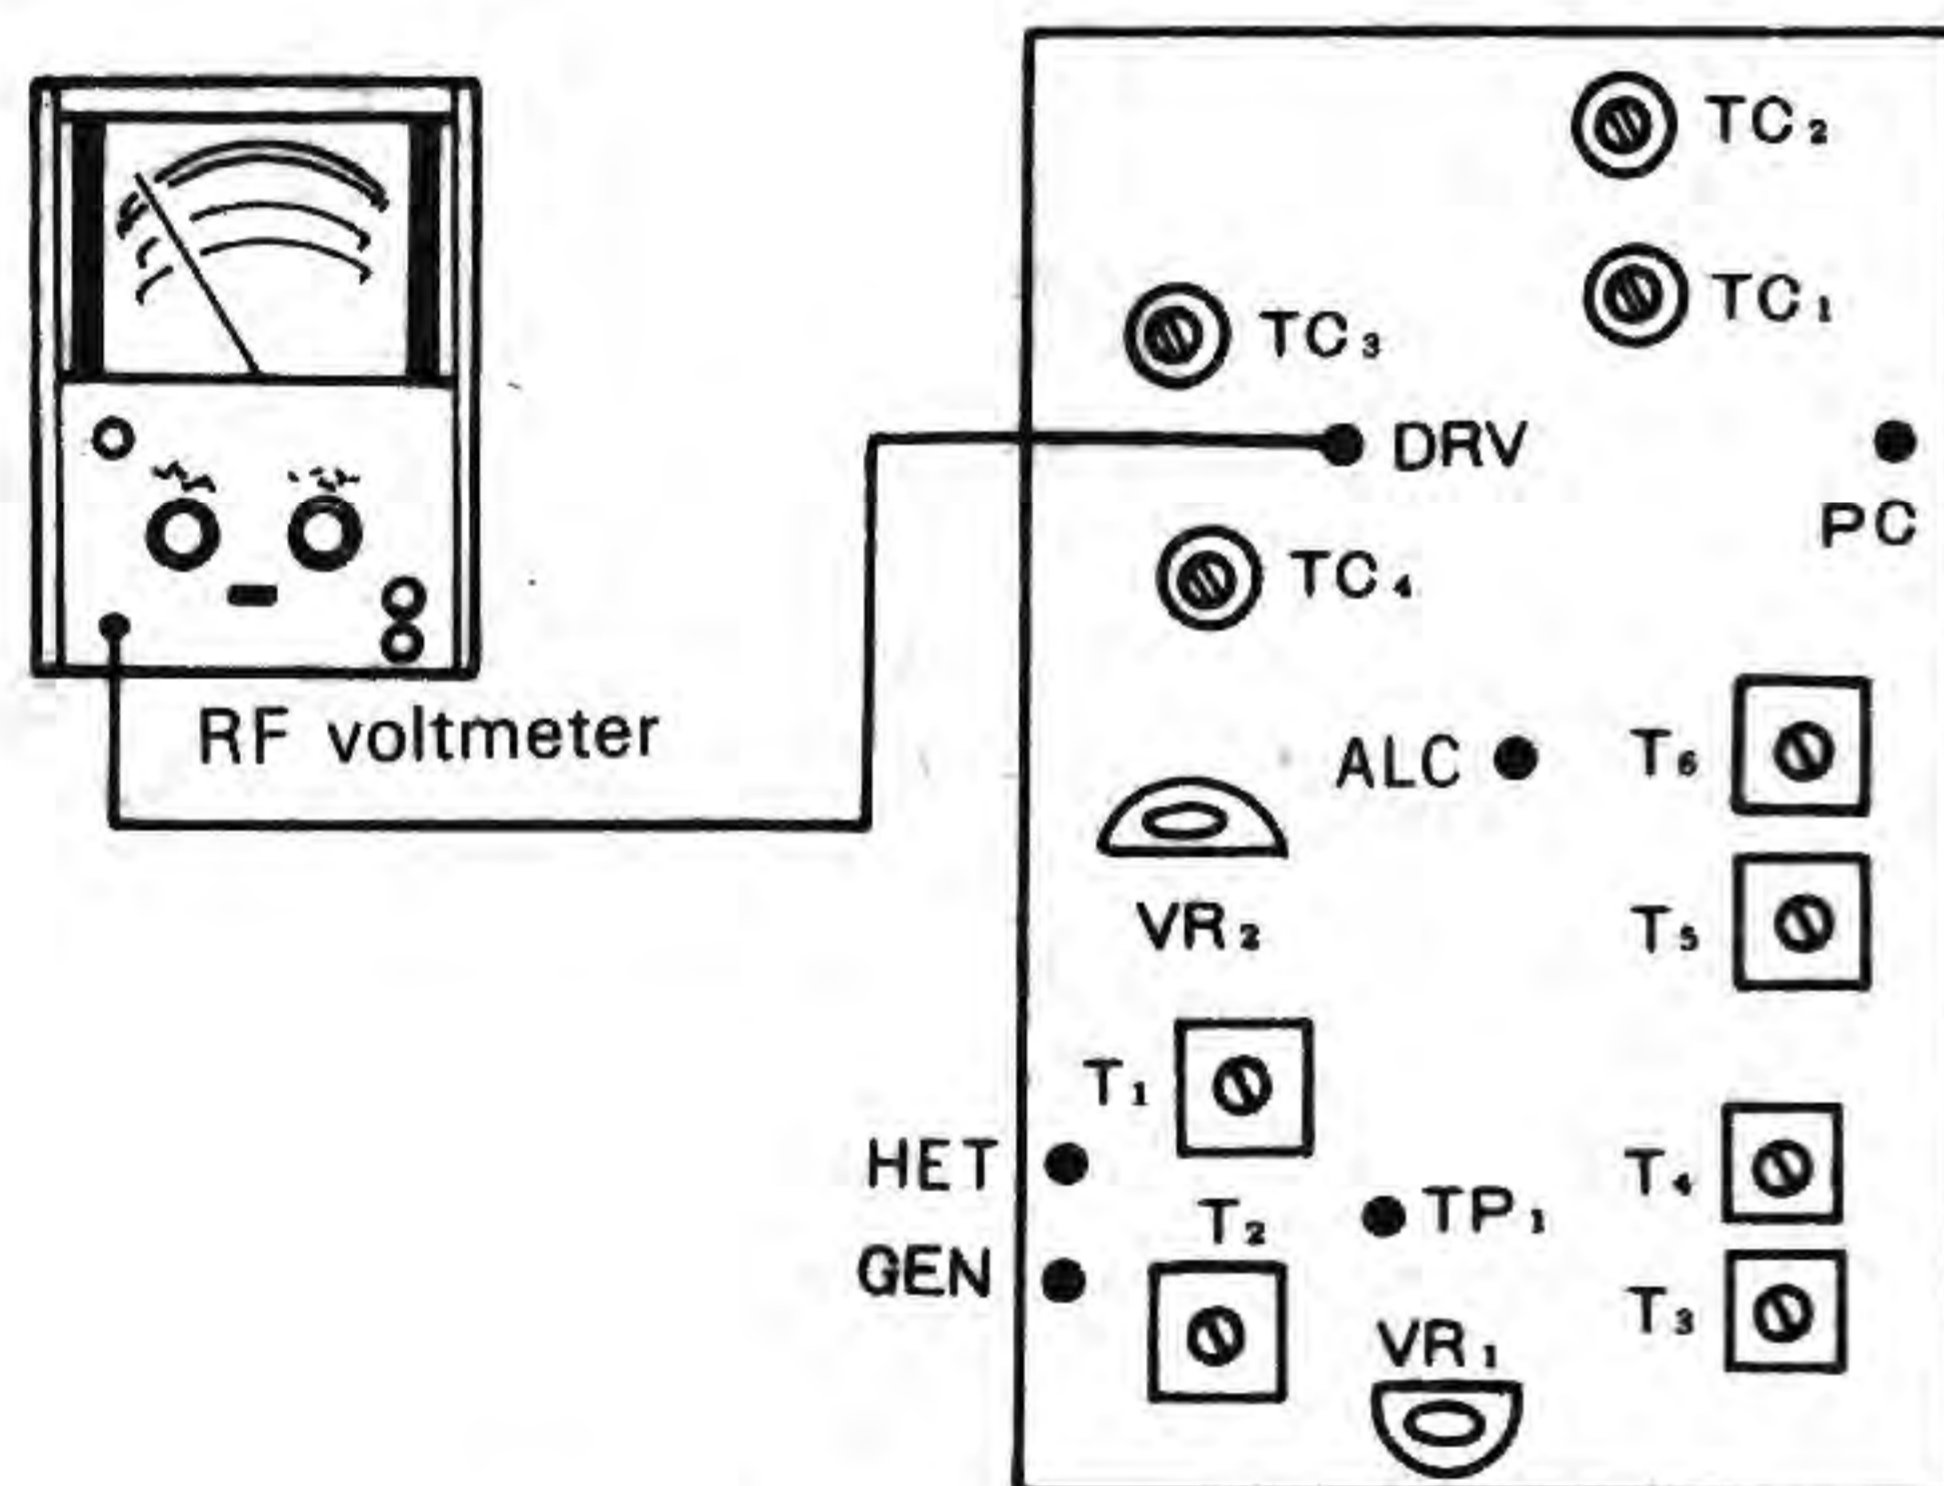
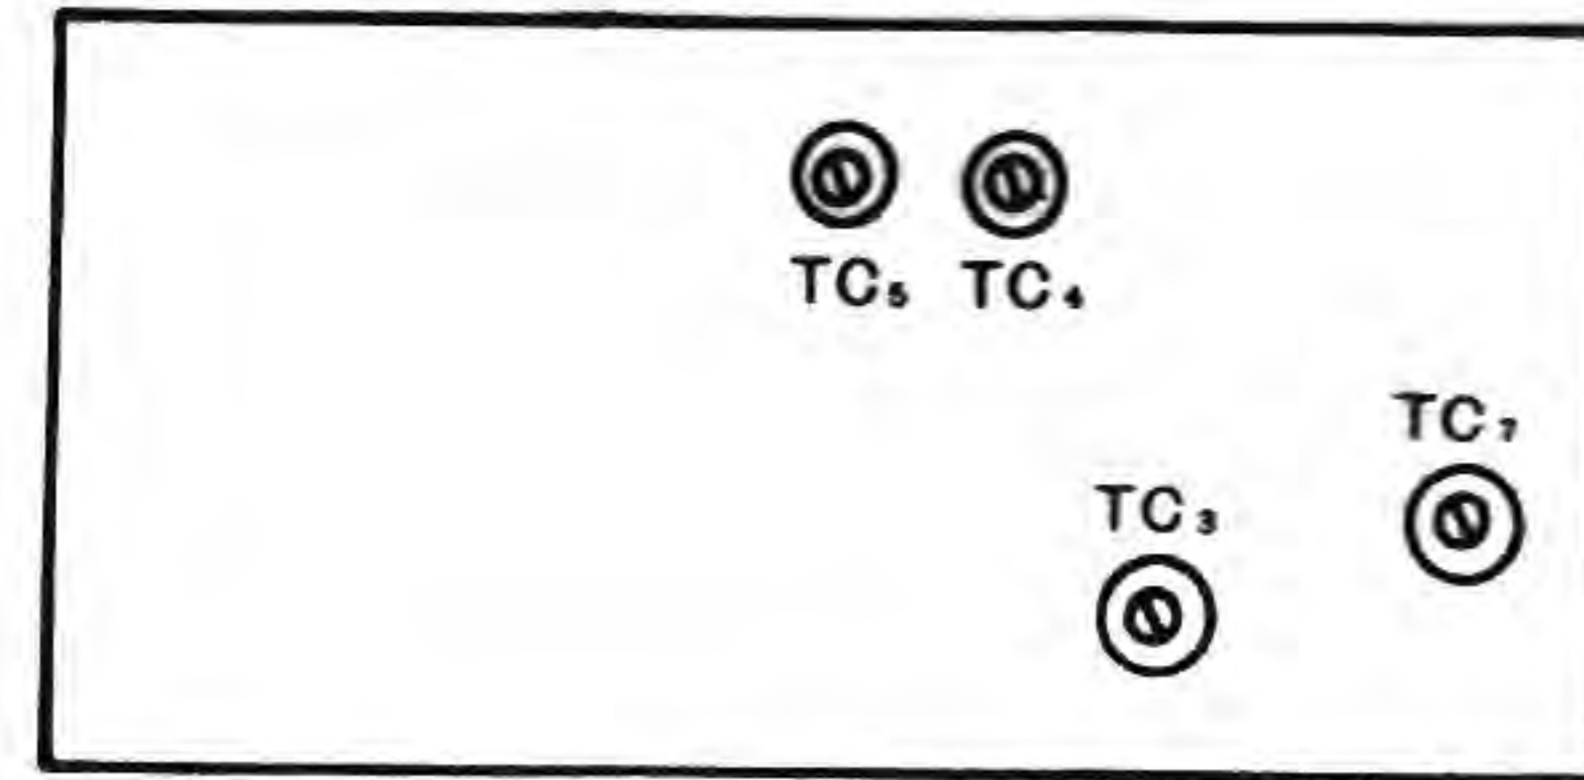

Fig. 23 MIX unit
Fig. 24 Final unit
Have the RF voltmeter connected as shown in Fig. 23.
- 3) Adjust TC1, TC2, TC3, TC4, TC5 and TC7, shown in Fig. 24, and also TC3 and TC4, shown in Fig. 23, to obtain the largest possible output. (Repeat the foregoing sequence several times, each time adjusting the FINAL control to maximize the output.)